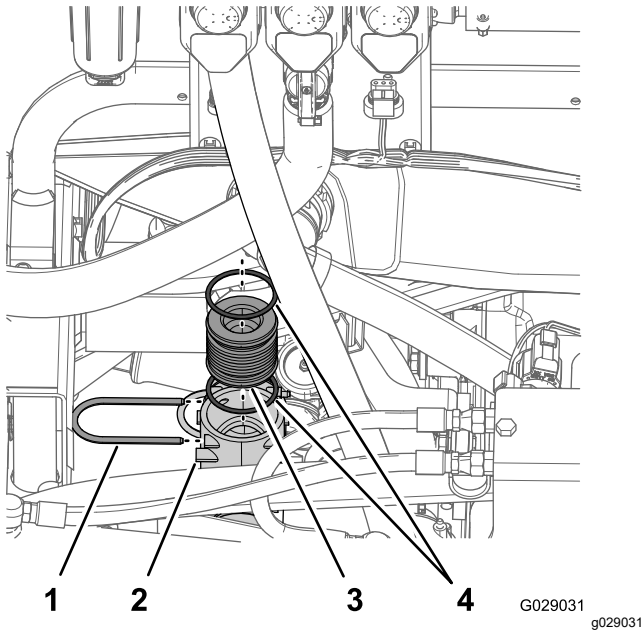

Figure 38
1. Install the 2 large O-rings into the O-ring grooves at either end of the hub connector (Figure 38)